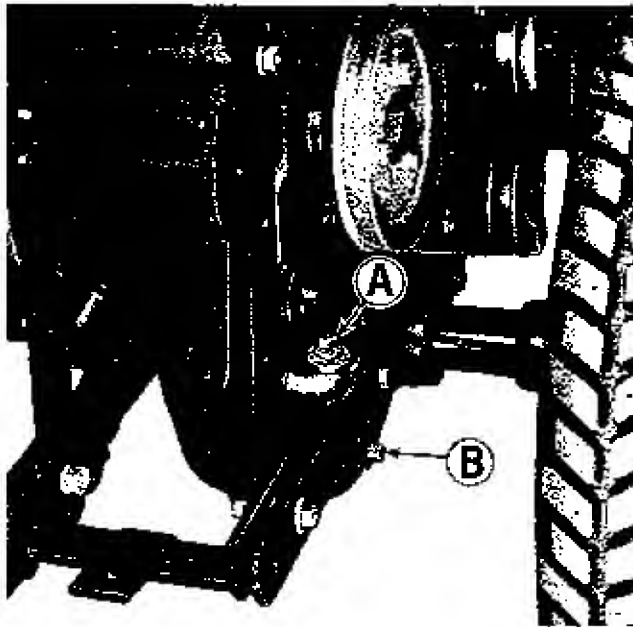

Figure 30. Rear of tractor showing axle drive housing.
CHECK TRANSMISSION OIL LEVEL: See figure 30. Remove pipe plug (A) to check the oil level in the axle housing. Oil should be level with the bottom of the threads. If it is not, add SAE 90 weight transmission oil. Replace the plug and tighten it securely.